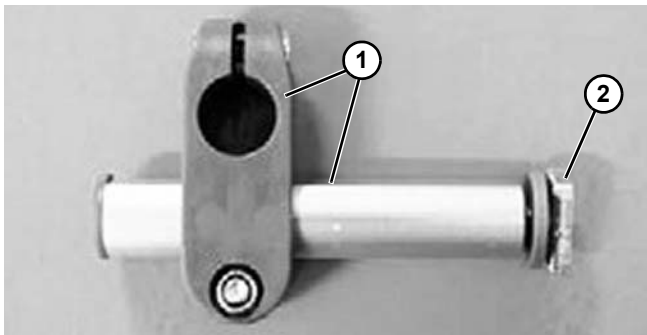

Figure 88
1. Fasten an adjustable guide rail bracket support (**Figure 88, item 1**) to the conveyor beam using T-bolt (**Figure 88, item 2**).